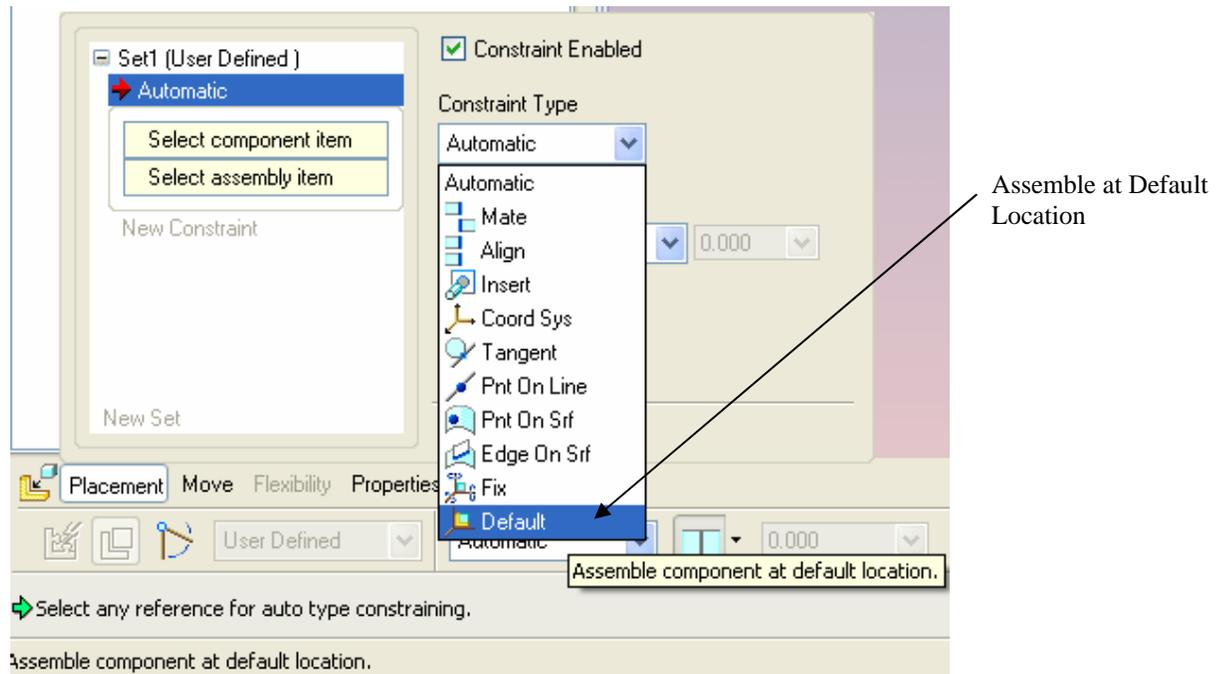

Figure 3: Component Placement
- Step 5:** Using the **Assemble Component at Default Location** Constraint Type, constrain the location of the reference model. (Figure 3) Choose to exit the Component Placement menu.